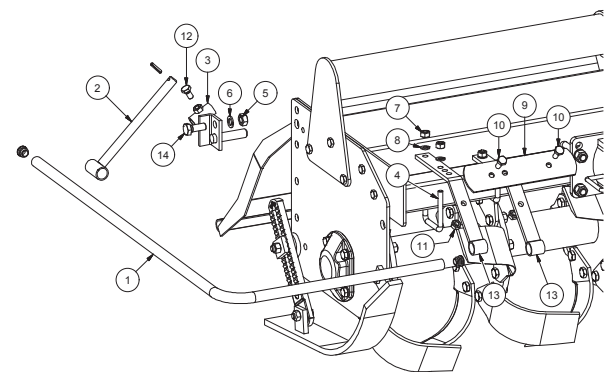

FIG. 13
1. Fit rear support (3, Fig. 13) with screw (14), nut (5) and washer (6).
2. Insert the support (2) securing it into position with the bolt (12).
3. Insert the longest side of the guard (1) into the rear sup-
- port (2) and insert the front supports (13) into the guard (1).
4. Fit front supports onto the front tube of the machine by means of U-bolts (4), nuts (7) and washers (8).
6. Fit the plate (9) onto the front supports (13) by means of bolts (10) and nuts (11). No tightening at this stage.
7. Drag the front supports (13) onto the tube, positioning the outer U-bolt (4) at 50mm from the side of the machine.
8. Tighten nuts (7).
9. Tighten bolts (10).